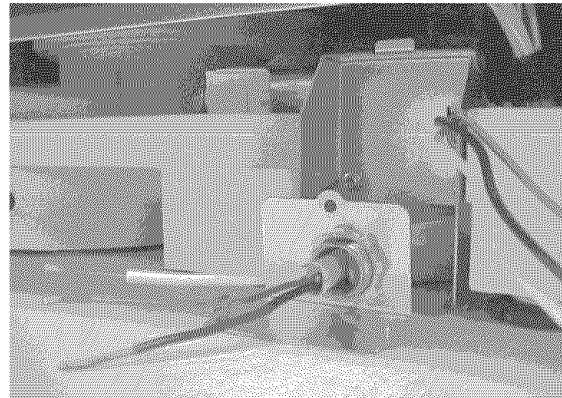

Figure 27
- 2) Pass the electrical supply cable through the strain relief, as shown in Figure 27. Leave 3 - 4 inches of insulated wire extending through the strain relief plate.